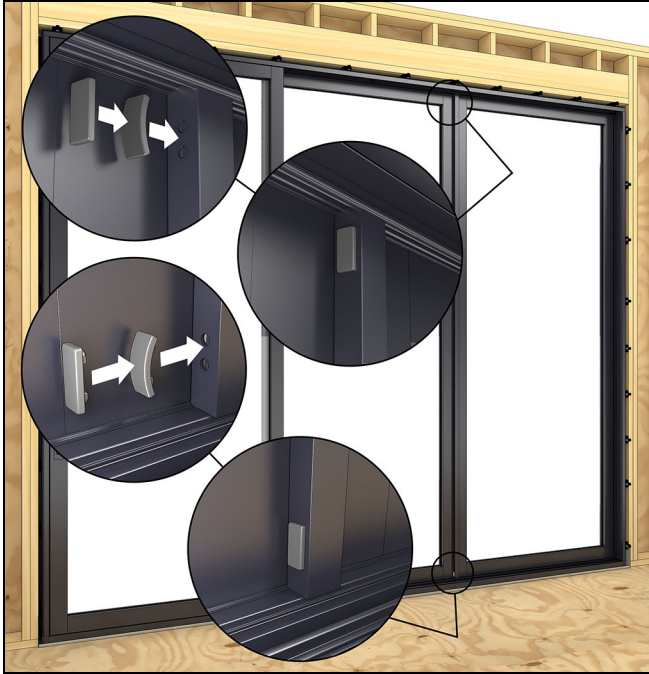

Figure 131
1. On OOX or XOO configurations insert the panel bumpers into the prefabricated holes in the interior astragal. See Figure 131.